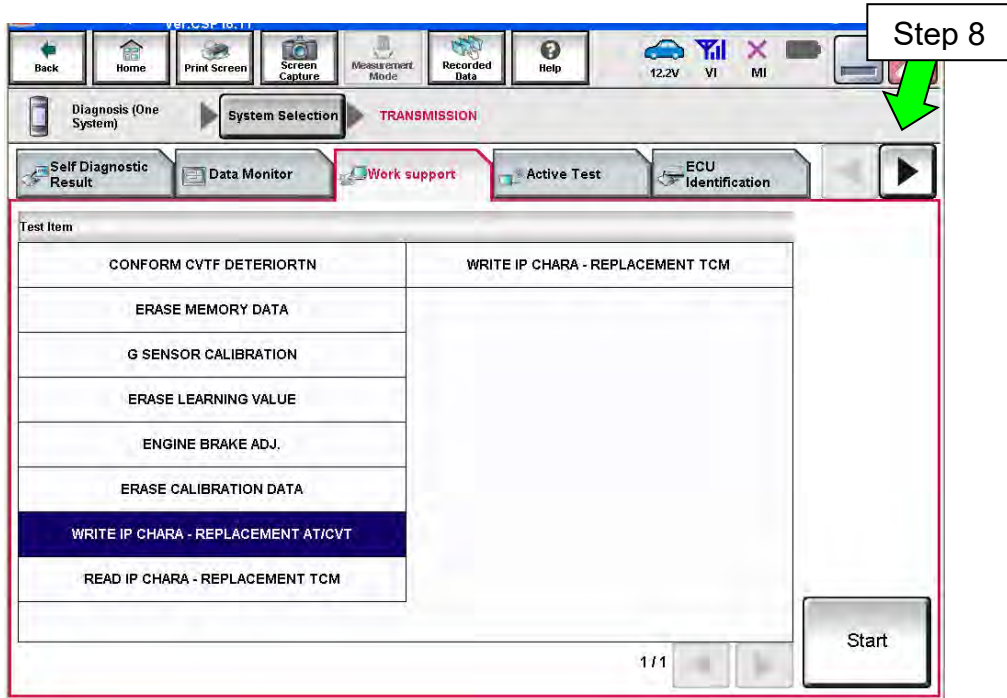
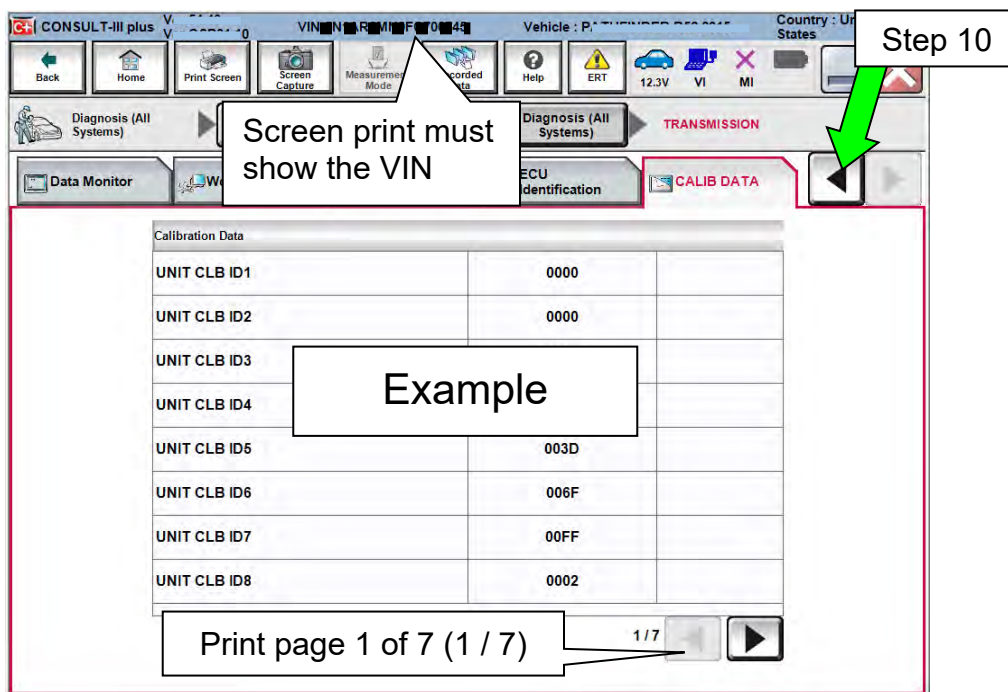
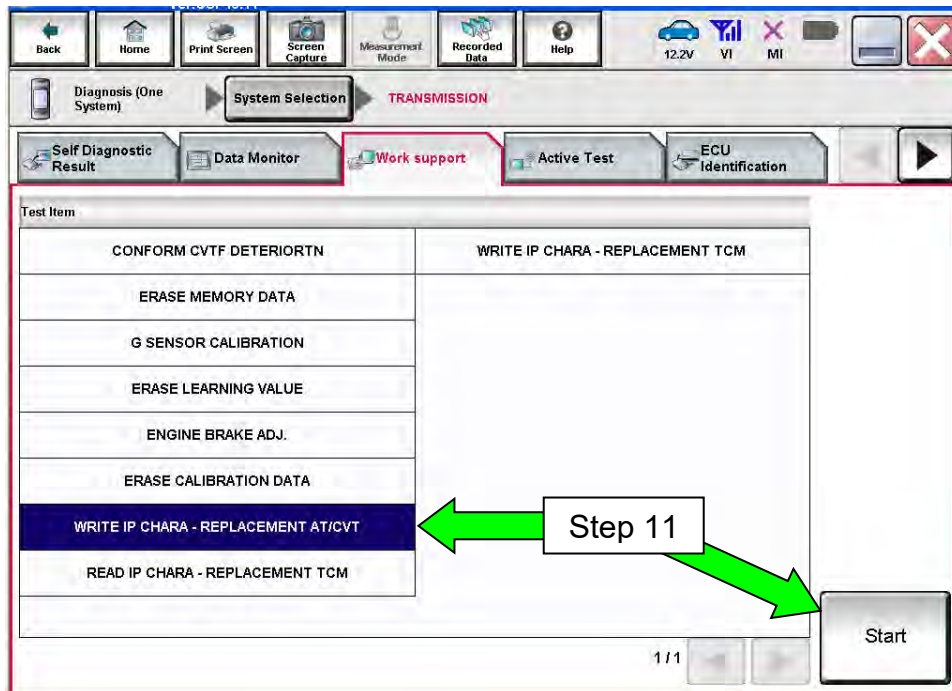

Figure 2
Figure 3
Figure 4
8. Select the scroll arrow shown in Figure 2 and select the **CALIB DATA** tab shown in Figure 3.
9. Print a copy of the screen shown in Figure 3 and attach it to the repair order.
10. Select the scroll arrow shown in Figure 3 and select the **Work support** tab as shown in Figure 4 on the next page.